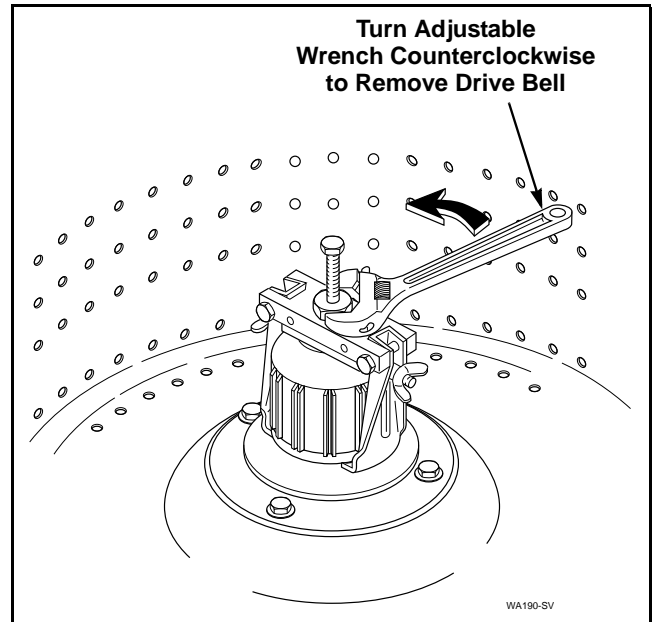

Figure 16
- Use an adjustable wrench and turn the large nut on tool **COUNTERCLOCKWISE** to pull drive bell from transmission output shaft. Refer to *Figure 16*.